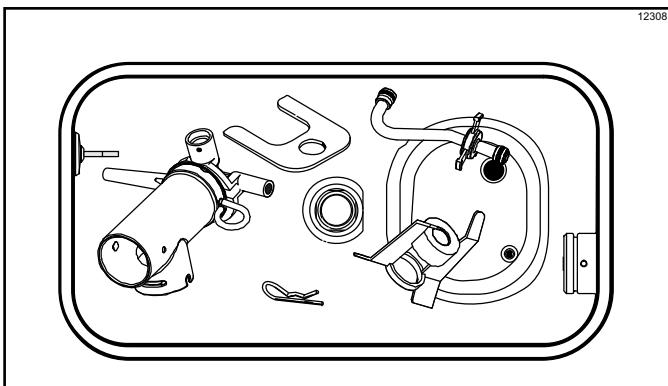

Figure 6-35
12. Lay the pump assembly, pump clip, cotter pin, mix feed tube assembly, and agitator in the bottom of the mix hopper for sanitizing. (See Figure 6-35.)